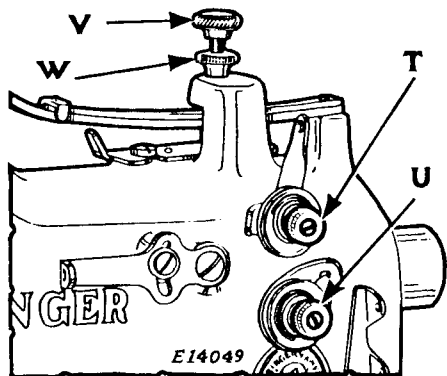

Fig. 9. To Adjust Needle Thread and Loper Thread Tensions
To increase the tension on the needle thread, turn the thumb nut (T, Fig. 9) over to the right, or turn the thumb nut (T) over to the left to decrease the needle thread tension.
To increase the tension on the looper thread, turn the thumb nut (U, Fig. 9) over to the right, or turn the thumb nut (U) over to the left to decrease the looper thread tension.
The pressure of the presser foot on the material is regulated by means of the thumb screw (V, Fig. 9) at the top of the machine.
Loosen lock nut (W, Fig. 9) and, to increase the pressure, turn thumb nut (V) downward, or turn the thumb nut (V) upward to decrease the pressure, then securely tighten the lock nut (W).